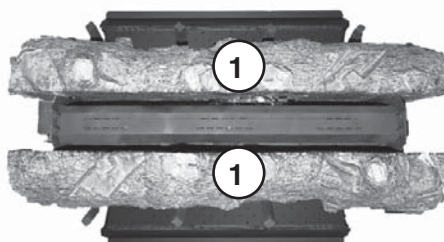

Fig. 20-4
1. Use the space between the grate and main burner as a guide to set the two (2) bottom logs (Logs #1) in their approximate positions, as shown in Fig. 20-4.